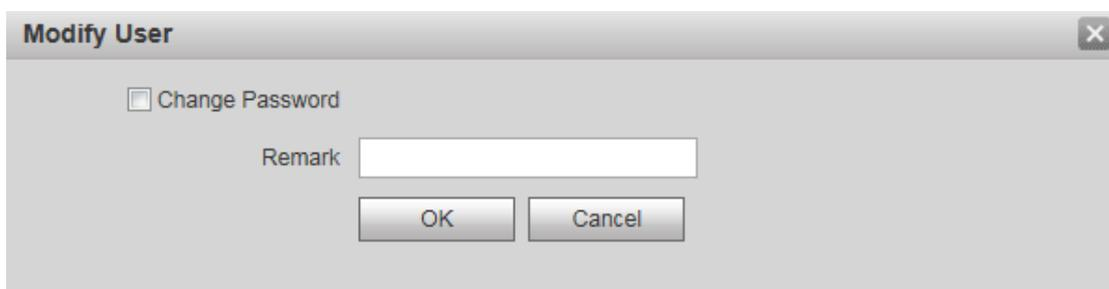

Figure 6-11
Step 1. Click . See Figure 6-11.